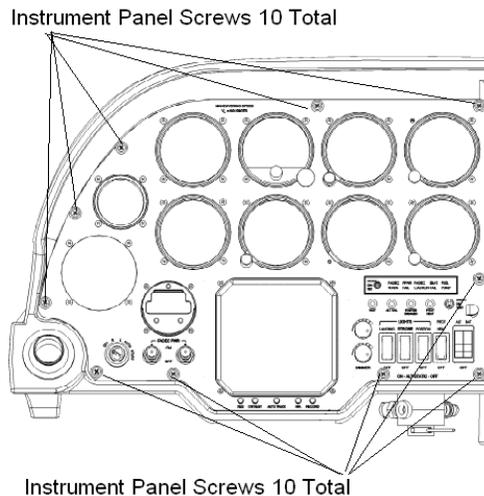

Figure 34-37 Location of the Screws Securing the Instrument Panel
4. Remove the ten screws securing the instrument panel to the instrument console. See Figure 34-37 for location of the screws.
5. Remove the ten screws securing the instrument panel to the instrument console. See Figure 34-37 for location of the screws.